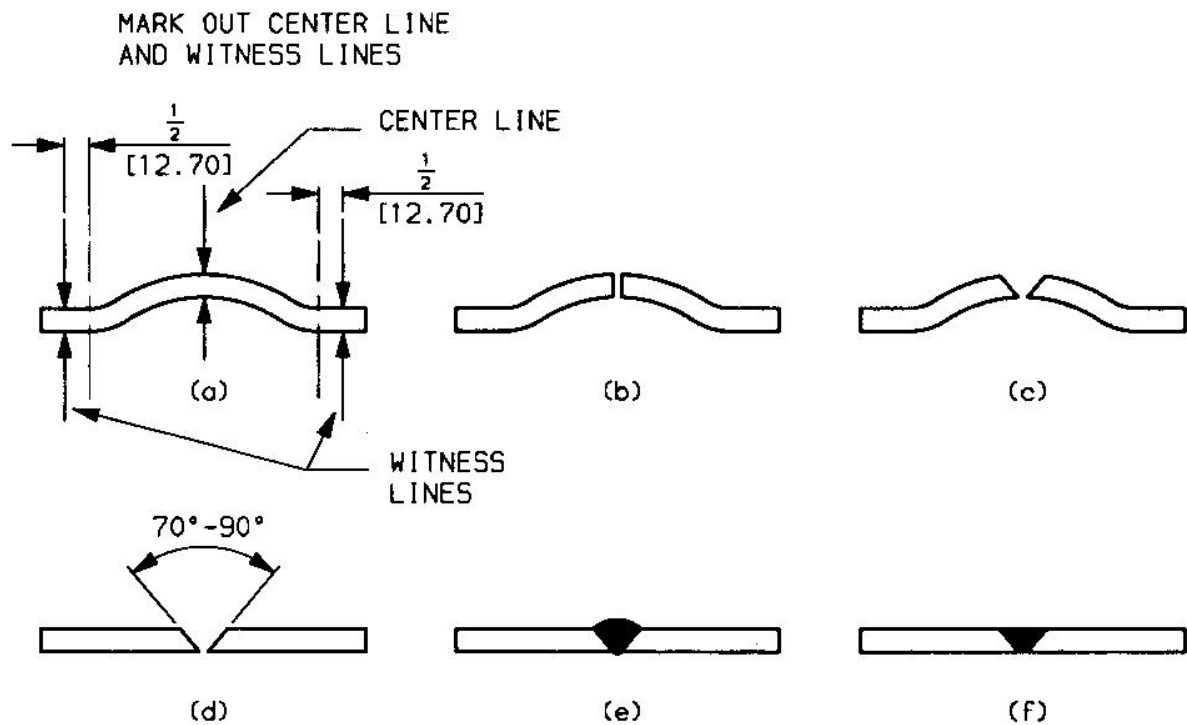

Figure 2-2 Repair steps for severely distorted plates
If the distortion of either steel or aluminum components is too severe to be beaten out, it is permissible to cut through the center line sufficiently to allow straightening and to rejoin the cut by welding after completion of the heat treatment and panel beating. The following repair procedure (fig. 2-2) applies to a severely distorted plate and should be interpreted appropriately for less severe distortion.
(1) Preparation for Straightening
- (d) Cut through the centerline leaving a slot of sufficient width to enable straightening of plate (fig.2-2(b)).
- (e) Hand grind weld preparation on cut, to achieve the included angle described in the weld procedure (Sections 5 and 6) when the plate has been straightened (figs. 2-2(c) and (d)). Note should also be made of the required toe depth for each weld configuration.
- (e) Weld the cut (fig.2-2 (e) and para. 2) in accordance with the parameters laid down in the weld procedures in Section 6.
- (f) Dress welds flush (fig.2-2 (f)).
- (3) Inspect welds (Section 3 b).
- (4) Check the straightened area for cracks using the dye penetrant technique; refer to (Section 3 c).